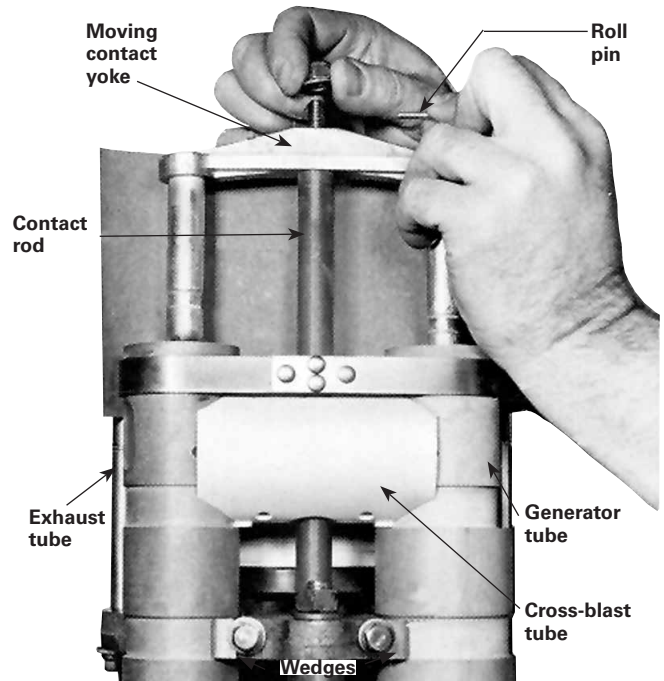

Figure 9. Removing contact yoke
1. Remove self-locking nut and washer from end of contact rod (Figure 9). Then drive out the roll pin that aligns the moving contact yoke. Lift off the moving contacts.